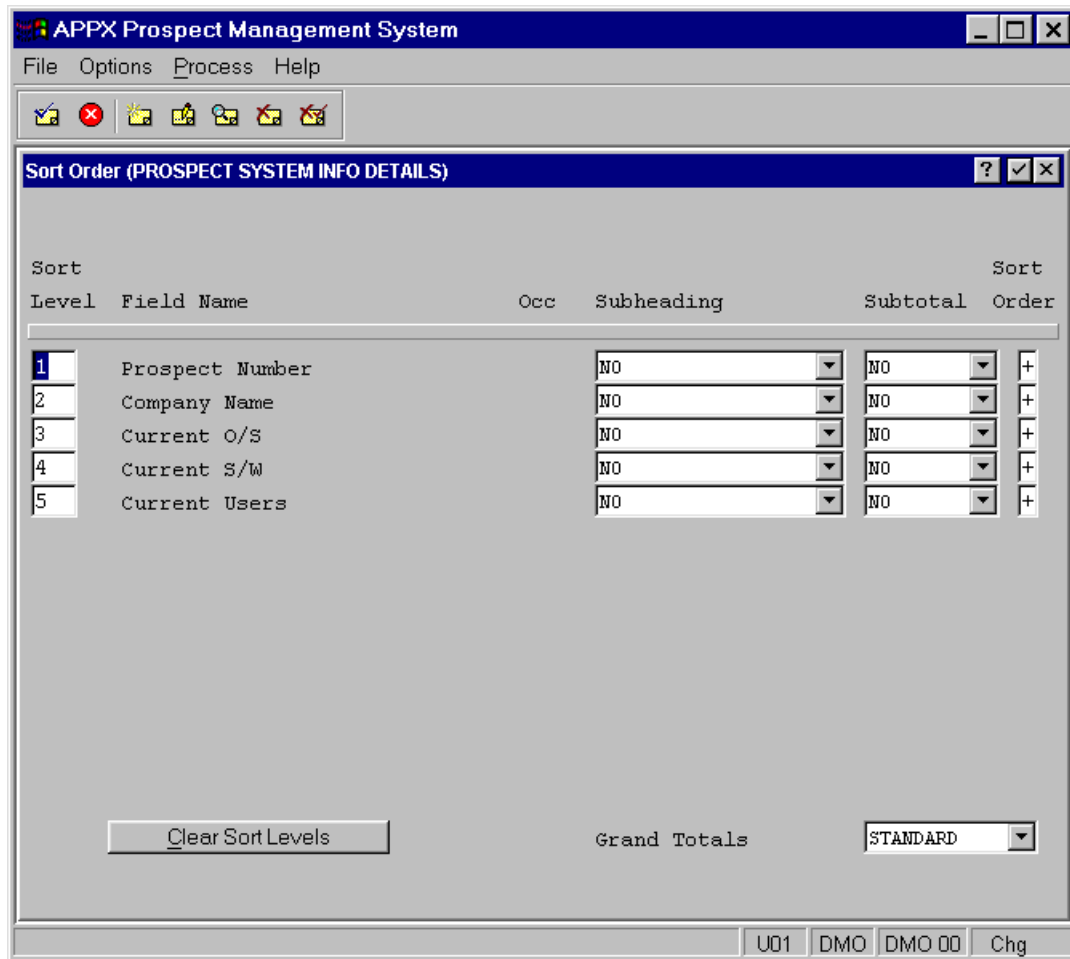

Figure E4.16 – Modified Sort Order screen
- The **Sort Order** screen is now displayed, enabling you to specify the subheadings, subtotals and grand totals that you require as well as whether you want the resulting report to display the records in ascending or descending order. Change the sort levels so the report is **sorted first by Current O/S** and then by prospect no, company name, etc. To do this you can either use the Clear Sort Levels button to remove the existing sort level numbers and then type in the required ones or you can simply type over the existing numbers. Use the  button next to the **Range-Start/Subheading** field to select a subheading of type **Standard**. Press **ENTER** once you have made these changes and the screen will be redisplayed so it looks like that shown in *Figure E4.16* below.